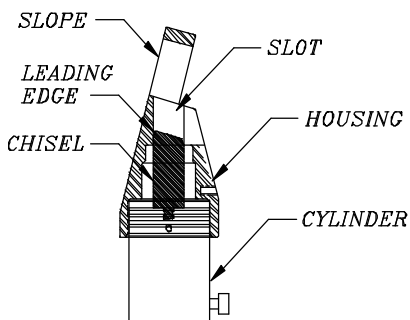

Figure 7
5. Connect the quick disconnect (10) to a hydraulic pump using a 10,000 psi hose. Refer to the Power Requirements on page 3 for appropriate hose and pump.
7. Place the housing (1) on the hydraulic cylinder (9). The chisel (4) will project into the housing. Make sure that the longest edge of the chisel is on the same side as the slope of the housing (1). *See figure 7.*
8. Completely thread the housing onto the cylinder while holding the cylinder extended. Back the housing off one full turn.* Lock in place by inserting the set screw (2) on the side of the housing and tightening with the Allen Wrench (3).